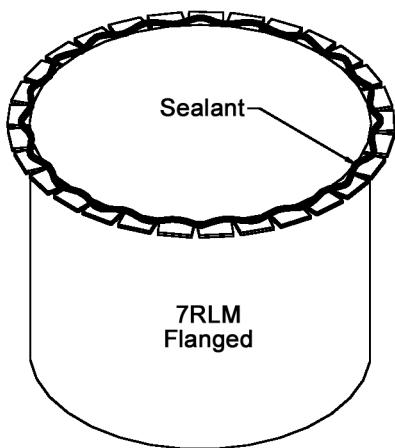

Figure 15
11. Put a thick bead of sealant around the innermost part of the topside of the flange on the 7RLM. See Figure 15.